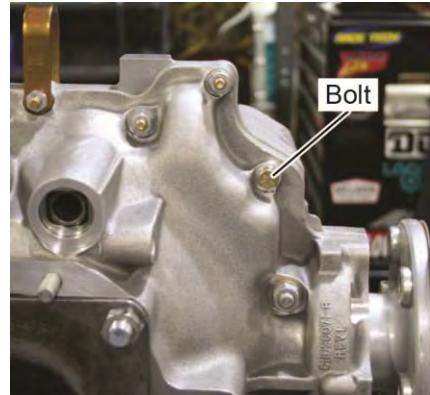

Figure 78
- (18) Apply Loctite® 564 to the threads of the bolt (Figure 78) to be installed behind the governor pad.
- (19) Install the bolt behind the governor pad (Figure 78). Torque the bolt per the torque values listed in Table 10.